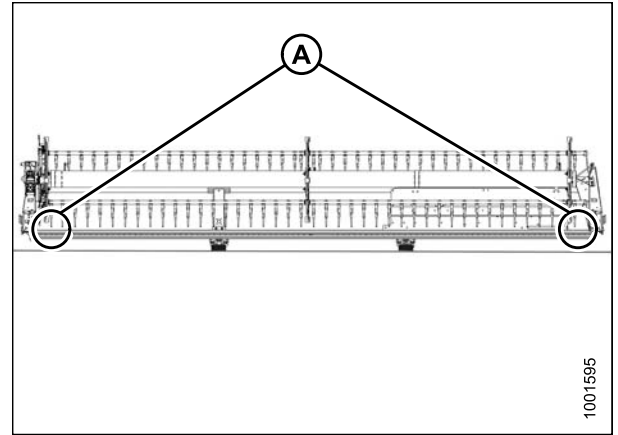

Figure 5.36: Single Reel Measurement Locations
6. Measure the clearance (X) between points (A) and (B) at certain measurement locations. For clearance specifications, refer to 5.12 Measuring Reel Clearance to Cutterbar, page 130. For the measurement locations, refer to:
- Figure 5.36, page 131 – single reel